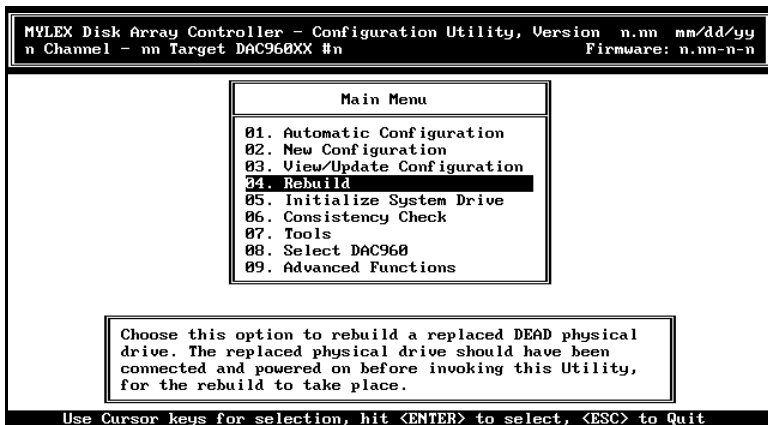

Figure 3-5. Rebuild Option
1. Select **Rebuild** from the Main menu (Figure 3-5).